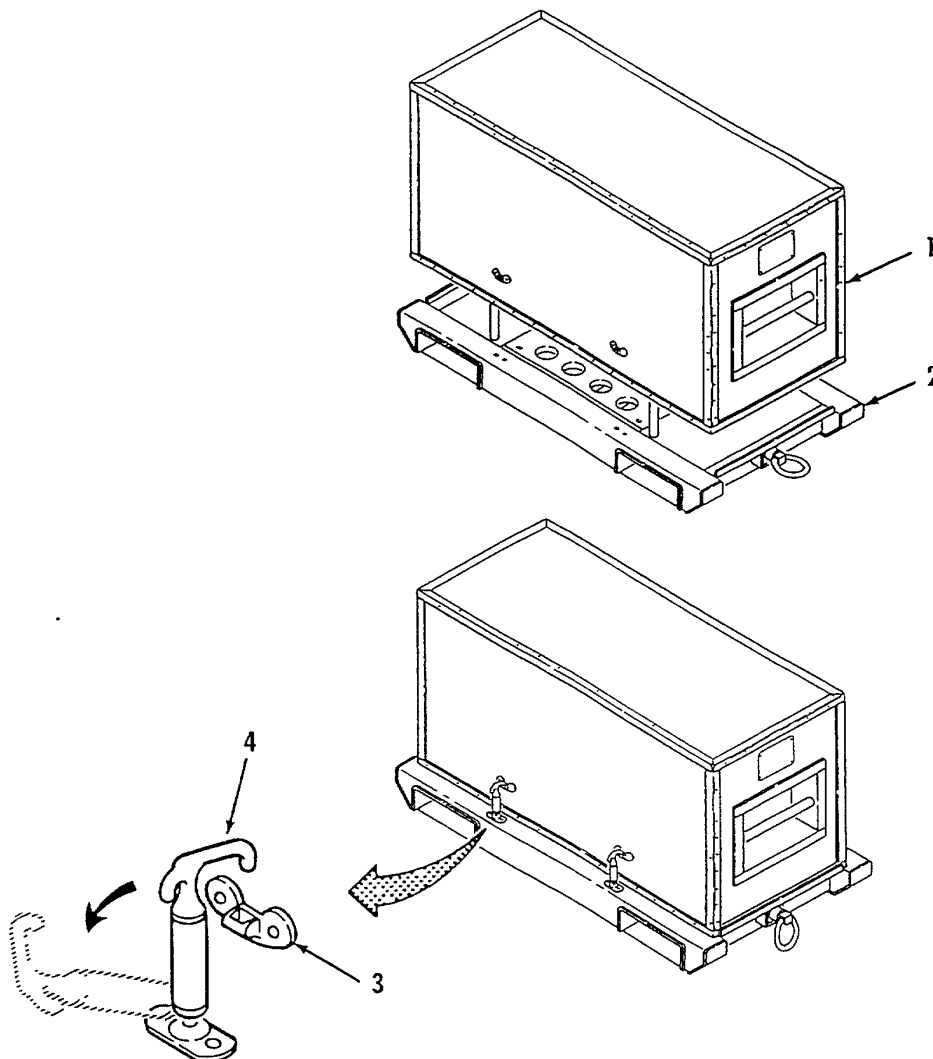

Figure 2-28. Cover Installation.
- h. Install Covers. Refer to figure 2-28.